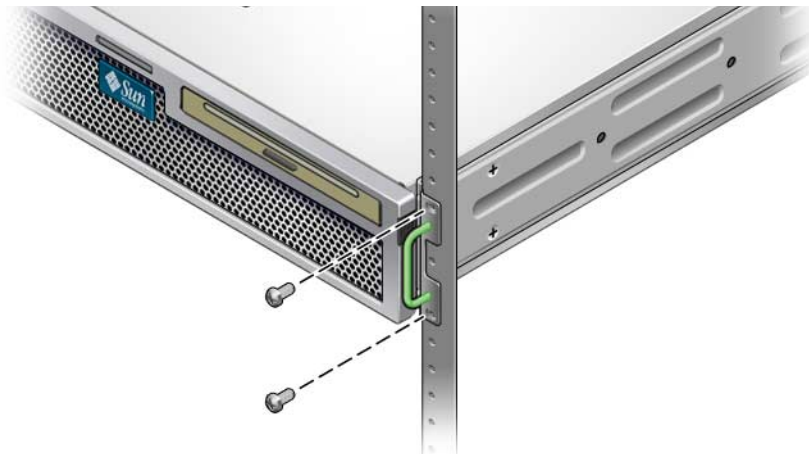

FIGURE 2-4 Securing the Front of the Server to the Rack
7. Using two screws per side, secure the front of the hardmount brackets attached to the sides of the server to the front of the rack (FIGURE 2-4).